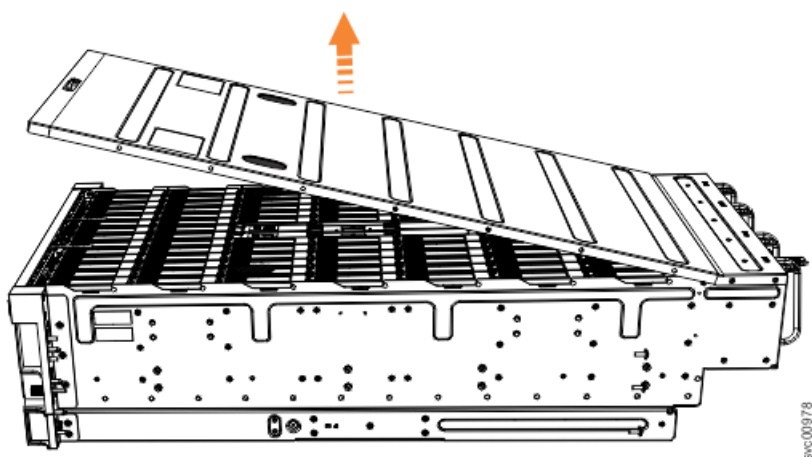

Figure 21. Removing the Model 092 enclosure cover
3. Carefully lift the cover up, as shown in Figure 21 on page 45.